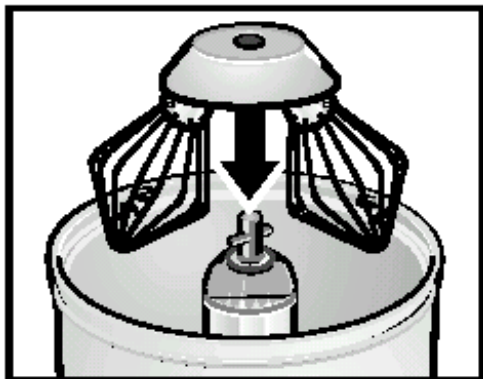

Figure 6.
3. Place and engage the twin beating whisk assembly on the driveshaft of the mixing bowl as shown in figure 6.